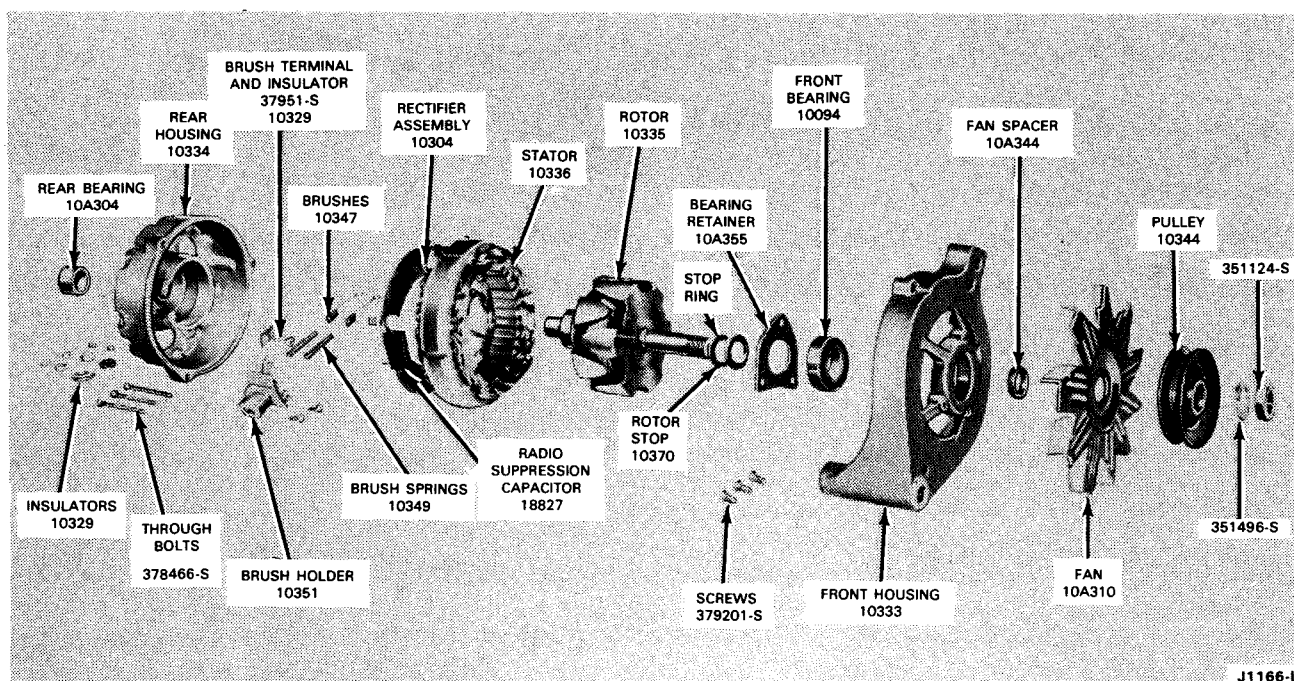

FIG. 15 Disassembled Alternator
Fig. 15 shows a disassembled view of the alternator.
2. Press the front bearing into the front housing bearing boss (apply pressure on the bearing outer race only) and install the bearing retainer (Fig. 15).